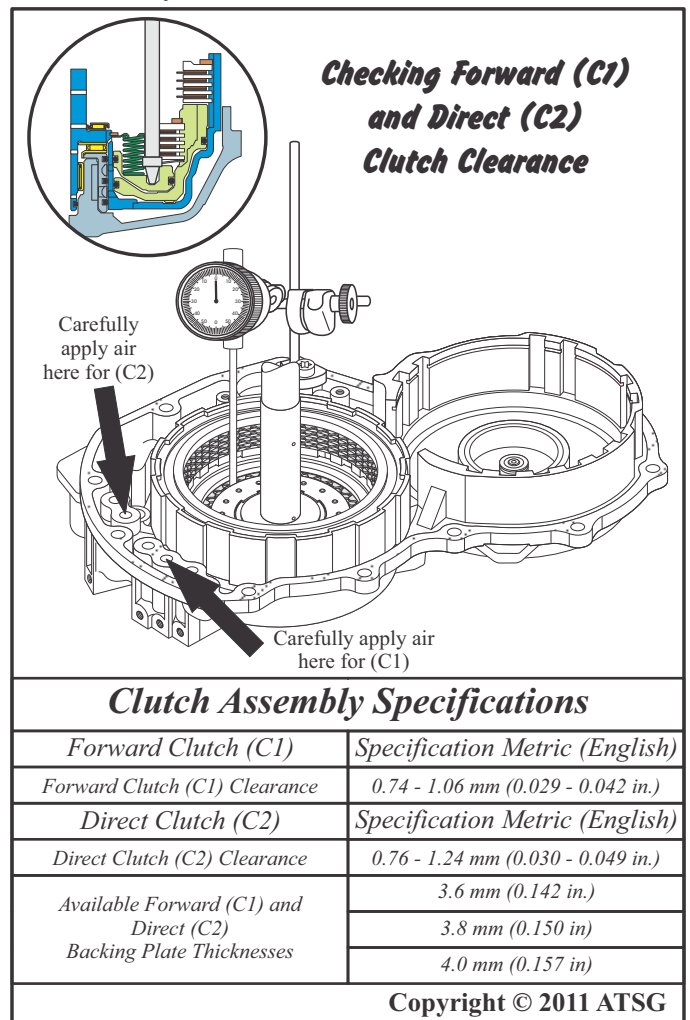

Figure 126
23. Set the Forward (C1) and Direct (C2) Clutch Drum into the 1-2/Reverse Brake Housing then using SST J 45166 and J 45200 or other adequate dial indicator, attach the base onto the housing, bolt it in place then put the dial indicator on the direct clutch piston and set the dial indicator to a zero reading as shown in Figure 126.
24. Using a small amount of compressed air, carefully apply pressure to the ports for the Forward (C1) and Direct (C2) clutch as shown in Figure 126.
25. Use the chart in Figure 126 to determine clutch clearance.
26. If clutch clearance is not within specification, select a different thickness backing plate from the chart shown in Figure 126.